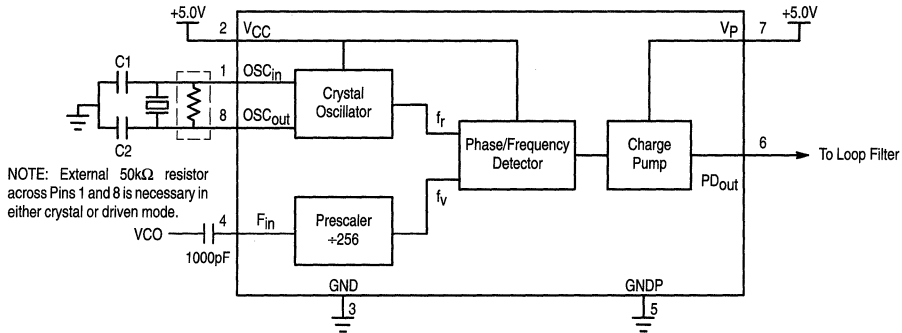

Figure 1. MC12179 Expanded Block Diagram
- Assumes  $C_1$  and  $C_2$  (Figure 1) limited to  $\leq 30pF$  each including stray and parasitic capacitances.
In the crystal mode, an external parallel-resonant fundamental mode crystal is connected between the  $OSC_{in}$  and  $OSC_{out}$  pins. This crystal must be between 5MHz and 11MHz. External capacitors, C1 and C2 as shown in Figure 1, are required to set the proper crystal load
A typical crystal oscillator application is shown in Figure 1. The crystal and the feedback resistor are connected directly between  $OSC_{in}$  and  $OSC_{out}$ , while the loading capacitors, C1